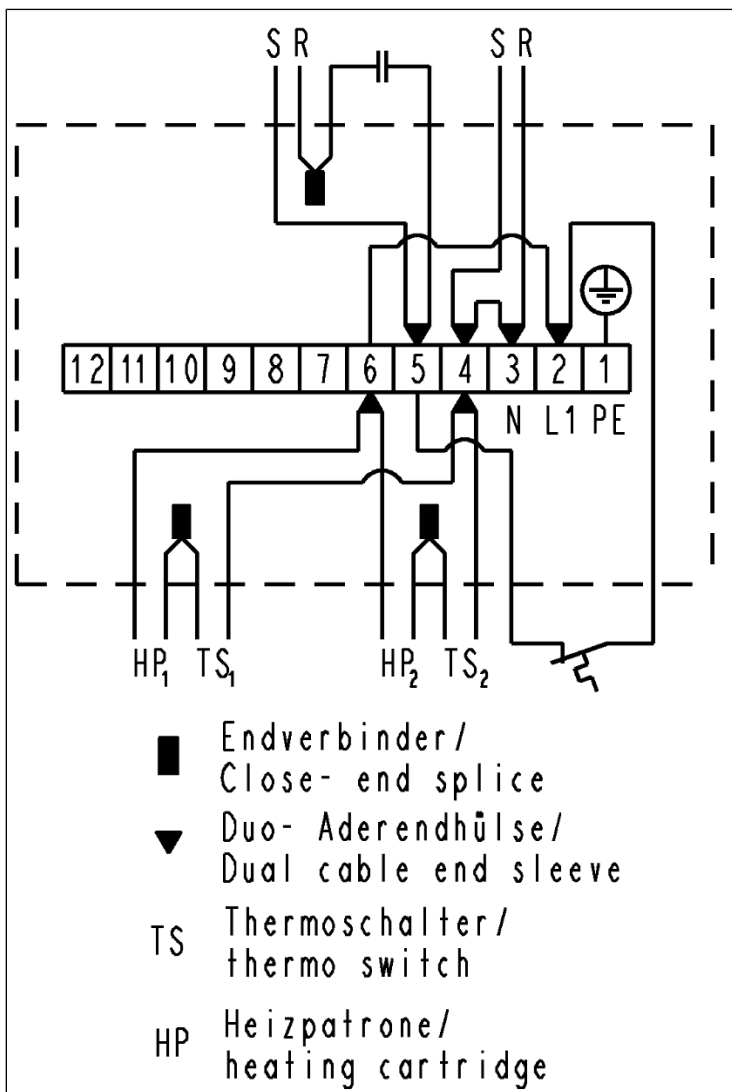

Fig.12: Electrical connection of N036.0.11
6. Connect the power cable to the L 1 and N connections of the terminal blocks (see Fig. 12).